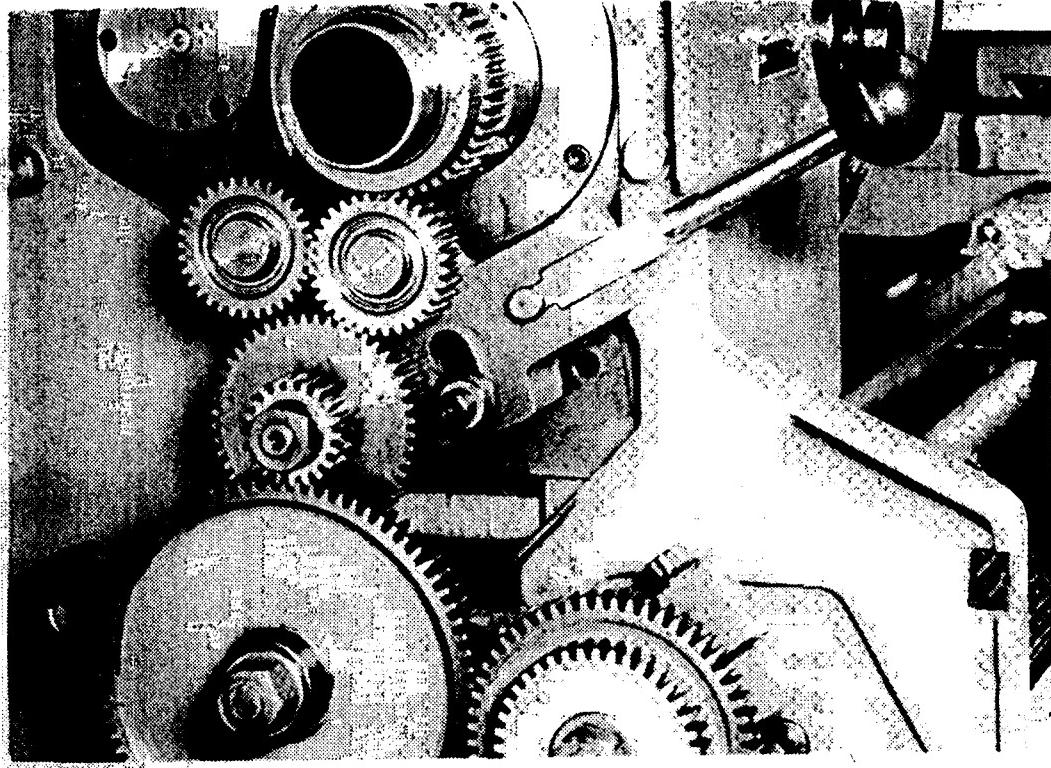

Fig. 16. Reverse gear
In the top position of the lever with conventional change gear set up (as in Fig. 16) the main leadscrew will revolve in the same direction as the main spindle; in the bottom position the main leadscrew will revolve in the opposite direction to the main spindle, and in the central position the change gear train is disengaged from the main spindle.
5. REVERSE GEAR BRACKET. Oil the bracket and gears at least daily when in use. (Fig. 16).